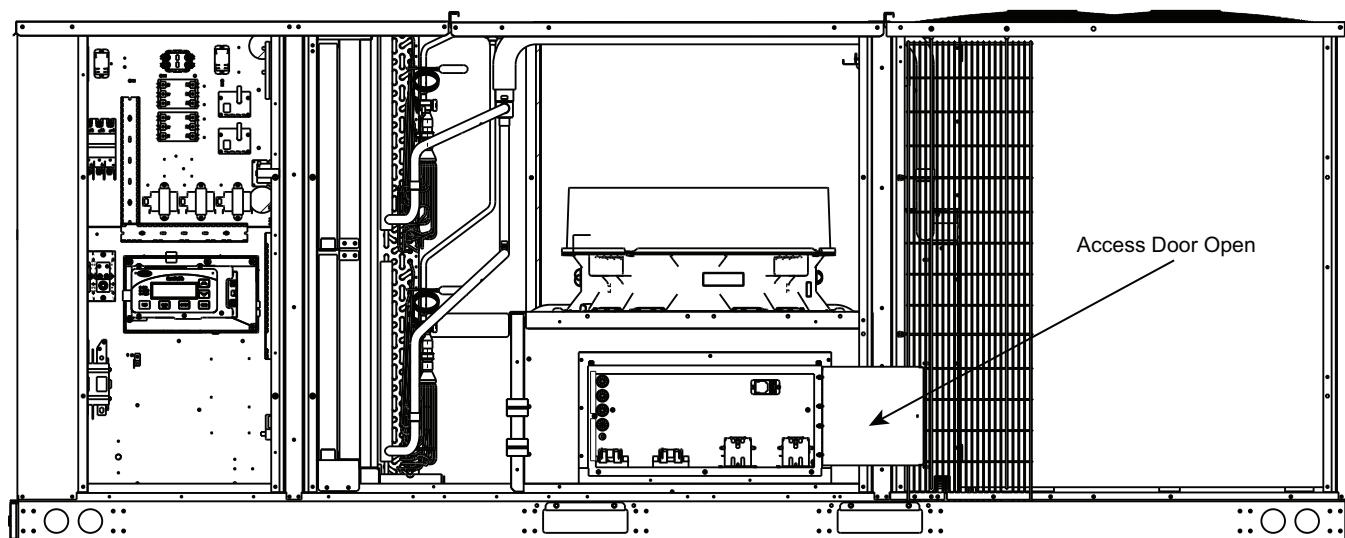

Fig. 51 — Electric Heater Accessory In Place (Shown with Access Door Opened)
5. Slide heaters until completely installed such that heater controls are completely in the unit. Using screws saved from Step 3, secure heater assembly. (See Fig. 51.)